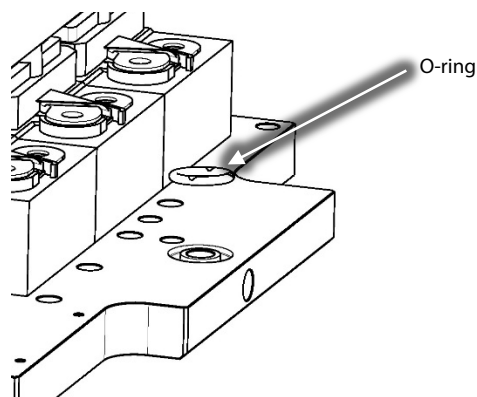

Figure 24 – IGBT Heat Sink Plate O-ring Install
7. Apply O-Lube to the provided SCR Heat Sink O-ring and place in the O-ring groove in the IGBT Heat Sink Plate and install. Refer to Figure 24 (IGBT Heat Sink Plate O-ring Install).